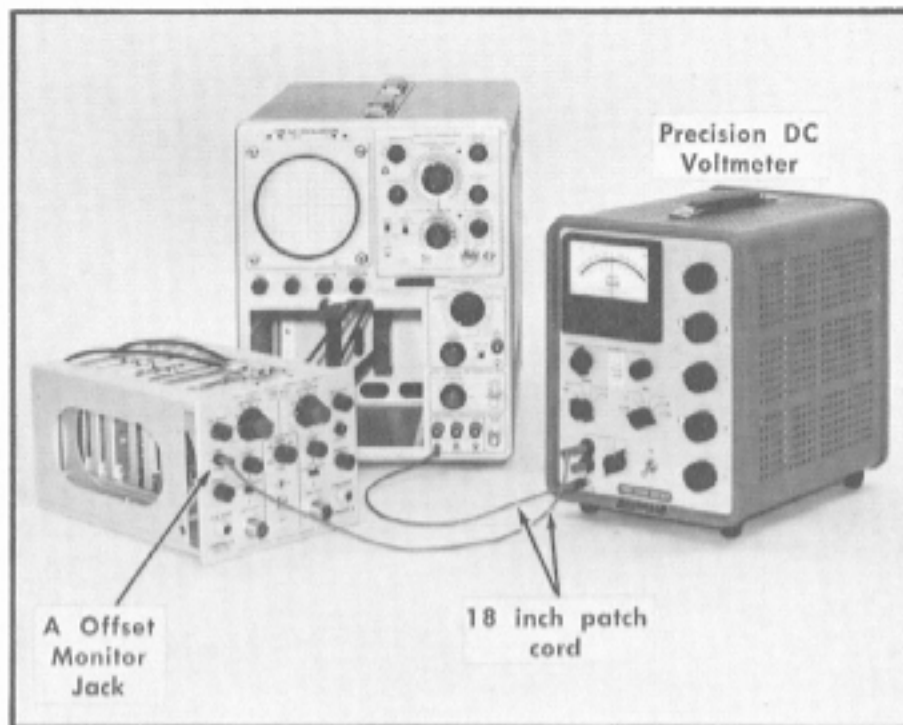

Fig. 6-30. Test equipment setup for step 20.
- a. Test equipment setup is shown in Fig. 6-30.